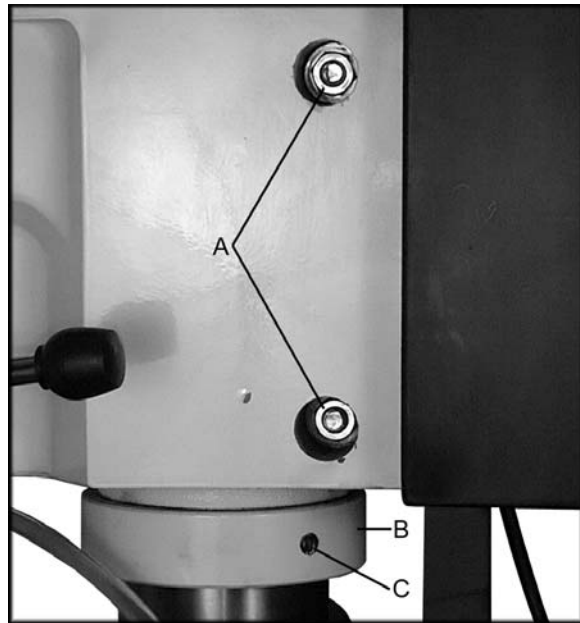

Figure 4
1. Make sure the two head locking bolts (refer to A, Fig. 4) are tight prior to lifting.
1. Loosen the two head locking bolts (A, Figure 4) by turning counterclockwise. *Make sure the two screws (C, Figure 4) in the lock collar (B) are tight.*
7. Tighten the two head locking bolts (A, Fig. 4). This will hold the head in place until the lock collar can be moved into position. The 2x4 can now be safely removed.
8. After the head is set at the desired height, loosen two set screws (C, Fig. 4) on the lock collar.
10. Firmly tighten the two setscrews on the lock collar (C, Fig. 4).